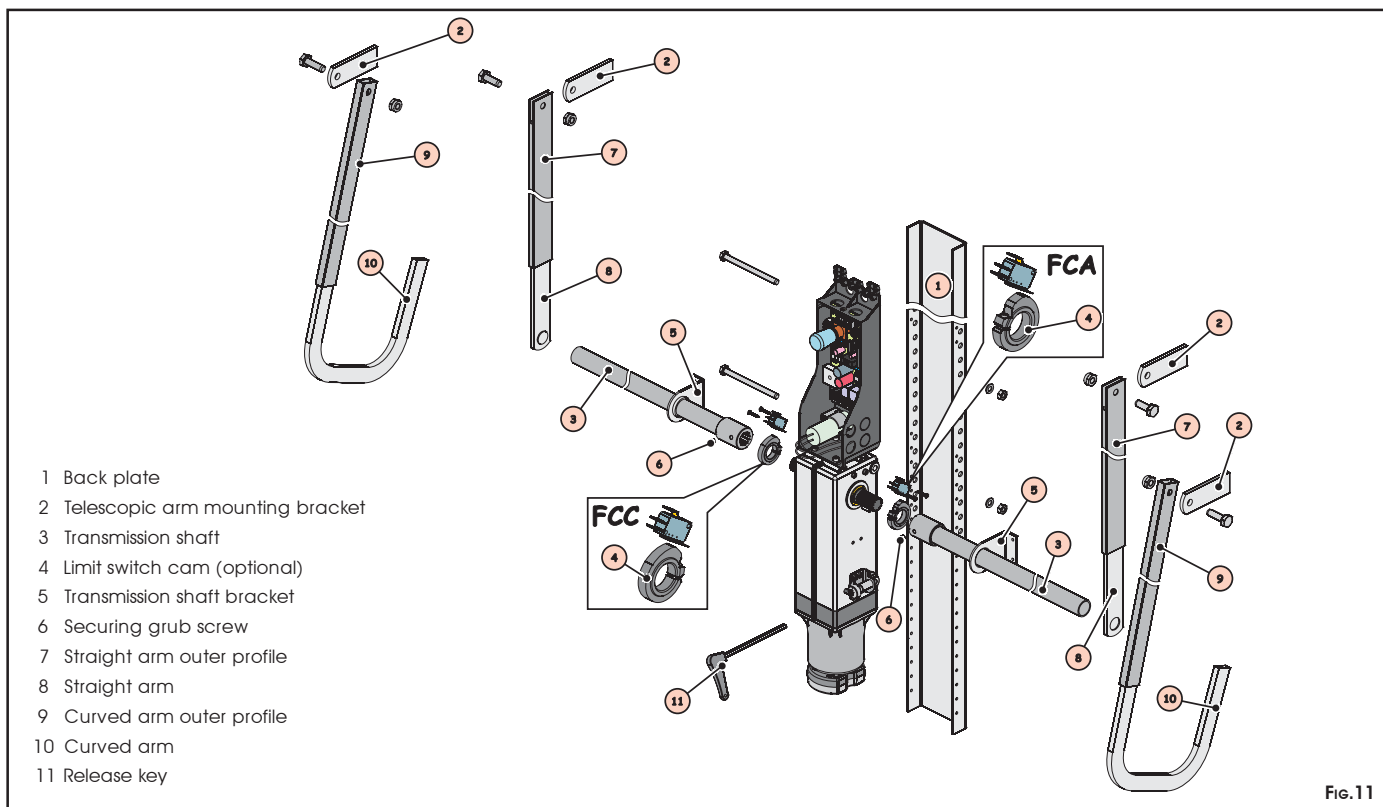

Fig.11
3) Fix the operator to the back plate using the nuts and bolts provided, as shown in fig. 11.
Fix the outer profiles of the telescopic arms to the brackets using the pins and the nuts and bolts provided, as shown in fig. 11.
If limit switches are used (optional), first fit the cams as shown in fig. 11.
Open the door as far as required, then turn the cam until it just trips microswitch **FCA** (fig. 11). Close the door, then turn the cam until it just trips microswitch **FCC** (fig. 11).